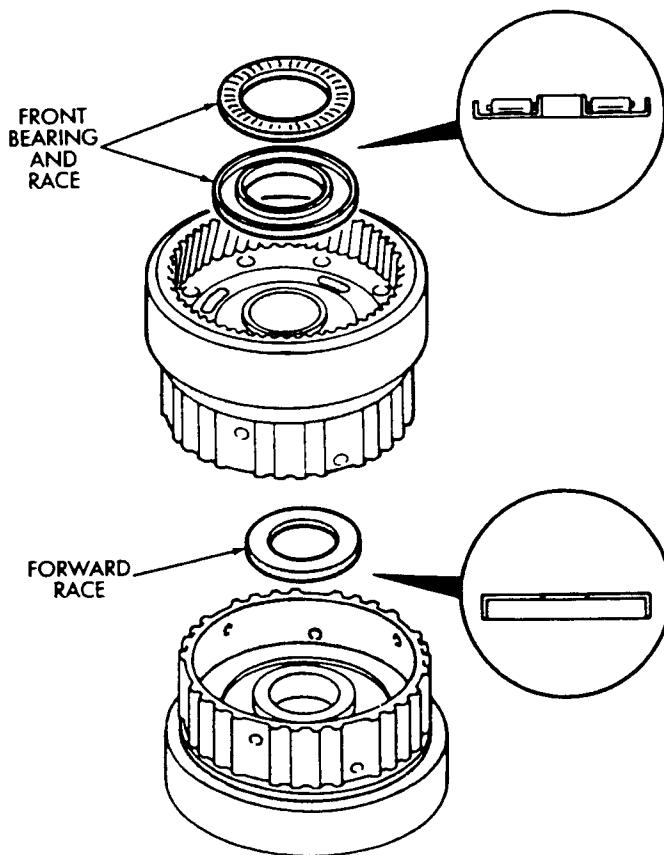

Fig. 4 Installing Front Planetary Front Bearing And Races
- (5) Install front race and bearing and forward race in ring gear (Fig. 4).
- (6) Set planetary gear assembly aside for final assembly.
(3) Remove thrust washer from drum (Fig. 4).